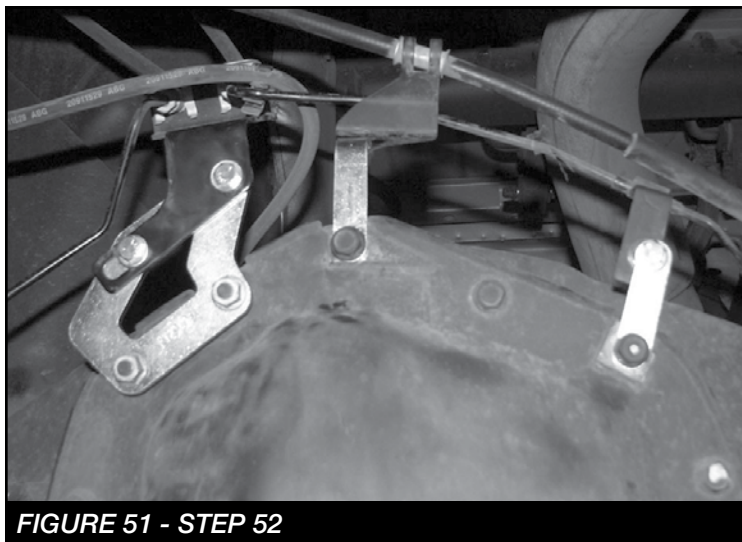

FIGURE 48 - STEP 50
50. Install the new FTBK21 (2" Block) and u-bolts. Install the block with the small taper towards the front of the vehicle. Torque the u-bolts to 317 ft-lbs. **SEE FIGURE 48**